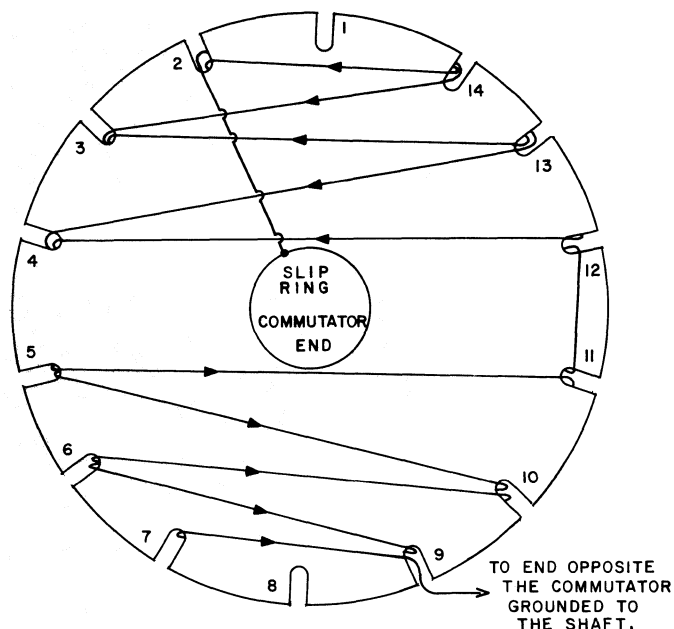

Fig. 1 - Armature Winding
**Re-Winding:** Begin with the armature standing on end with the commutator down. Start winding in a clockwise manner from the commutator end. Wind through slots 2 and 14 (see Fig. 1) 50 turns. Continue to slots 3 and 13, 50 turns. Continue to slots 4 and 12, 50 turns. Then continue to slots 11 and 5 winding in the opposite direction, 50 turns. Continue to slots 10 and 6, 50 turns, and 9 and 7, 50 turns, ending with the wire at the end opposite the commutator. As each winding is complete, wedge the windings in the slots with the old wedge or wood. Slots 1 and 8 are not used. Check that the windings are not shorted to ground. Solder wire opposite commutator end to armature shaft. Solder wire at commutator end to commutator. Wrap a wire in the groove on the commutator and solder wire to all the segments, forming a slip ring. Paint the armature windings with shellac or varnish. Remove the ground brush from the generator. Replace the end cover and pulley on the armature. Put the armature into the generator housing and replace the end cap.